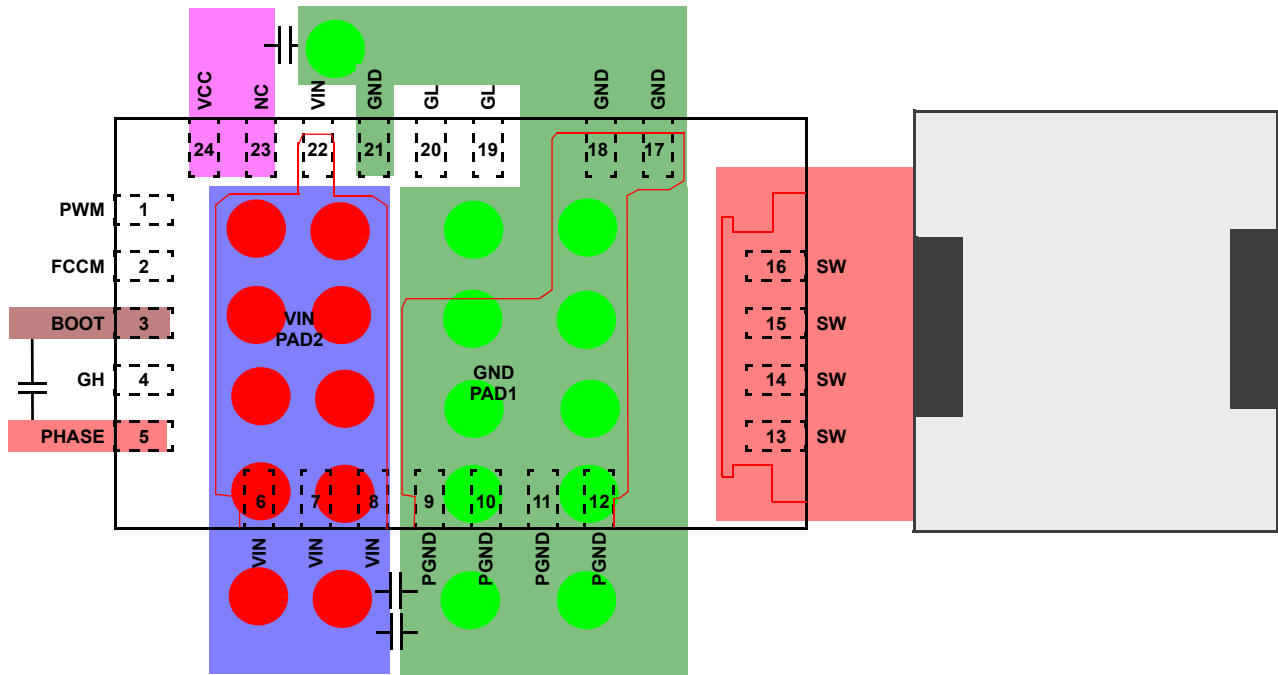

FIGURE 20. PCB LAYOUT FOR MINIMIZING CURRENT LOOPS
- Place multiple 10 $\mu$ F or greater ceramic capacitors directly at the device between VIN and PGND as indicated in Figure 20. This is the most critical decoupling and reduced parasitic inductance in the power switching loop. This will reduce overall electrical stress on the device as well as reduce coupling to
- Place VCC and BOOT-PHASE decoupling capacitors at the IC pins as shown in Figure 20.